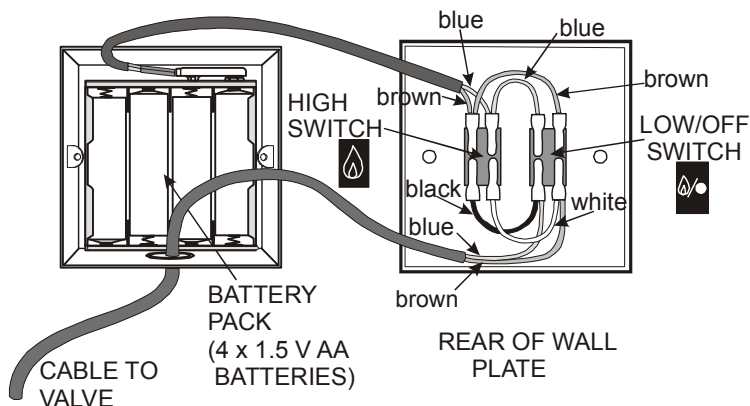

Figure 68
3. Make the connections on the wall switches as shown in **Figure 68**.